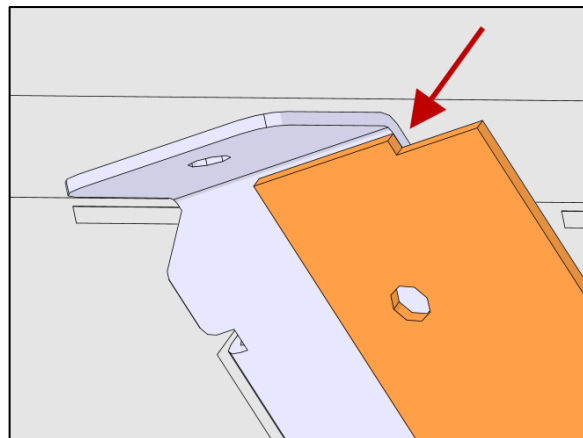

FIGURE 39
65. Position the special support as shown in Figure 39.